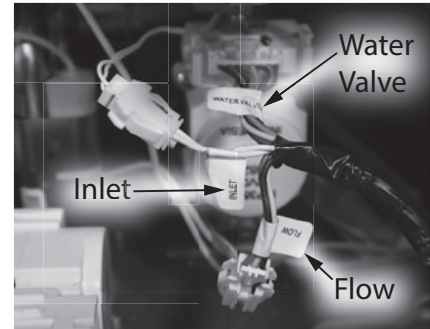

Figure 51 - Location of inlet flow module harnesses
- 21** Locate the three (3) wiring harness at the inlet flow module and disconnect them. See Figure 51.
- 25** Reconnect the end of the new main wiring harness to the three (3) wiring harnesses removed in **Step 21**. See Figure 51.